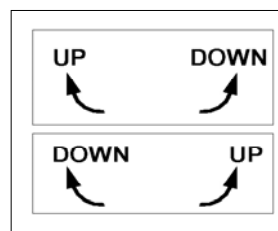

Fig 1-2
2. This label shows the direction of the crank handle. [Fig 1-2]